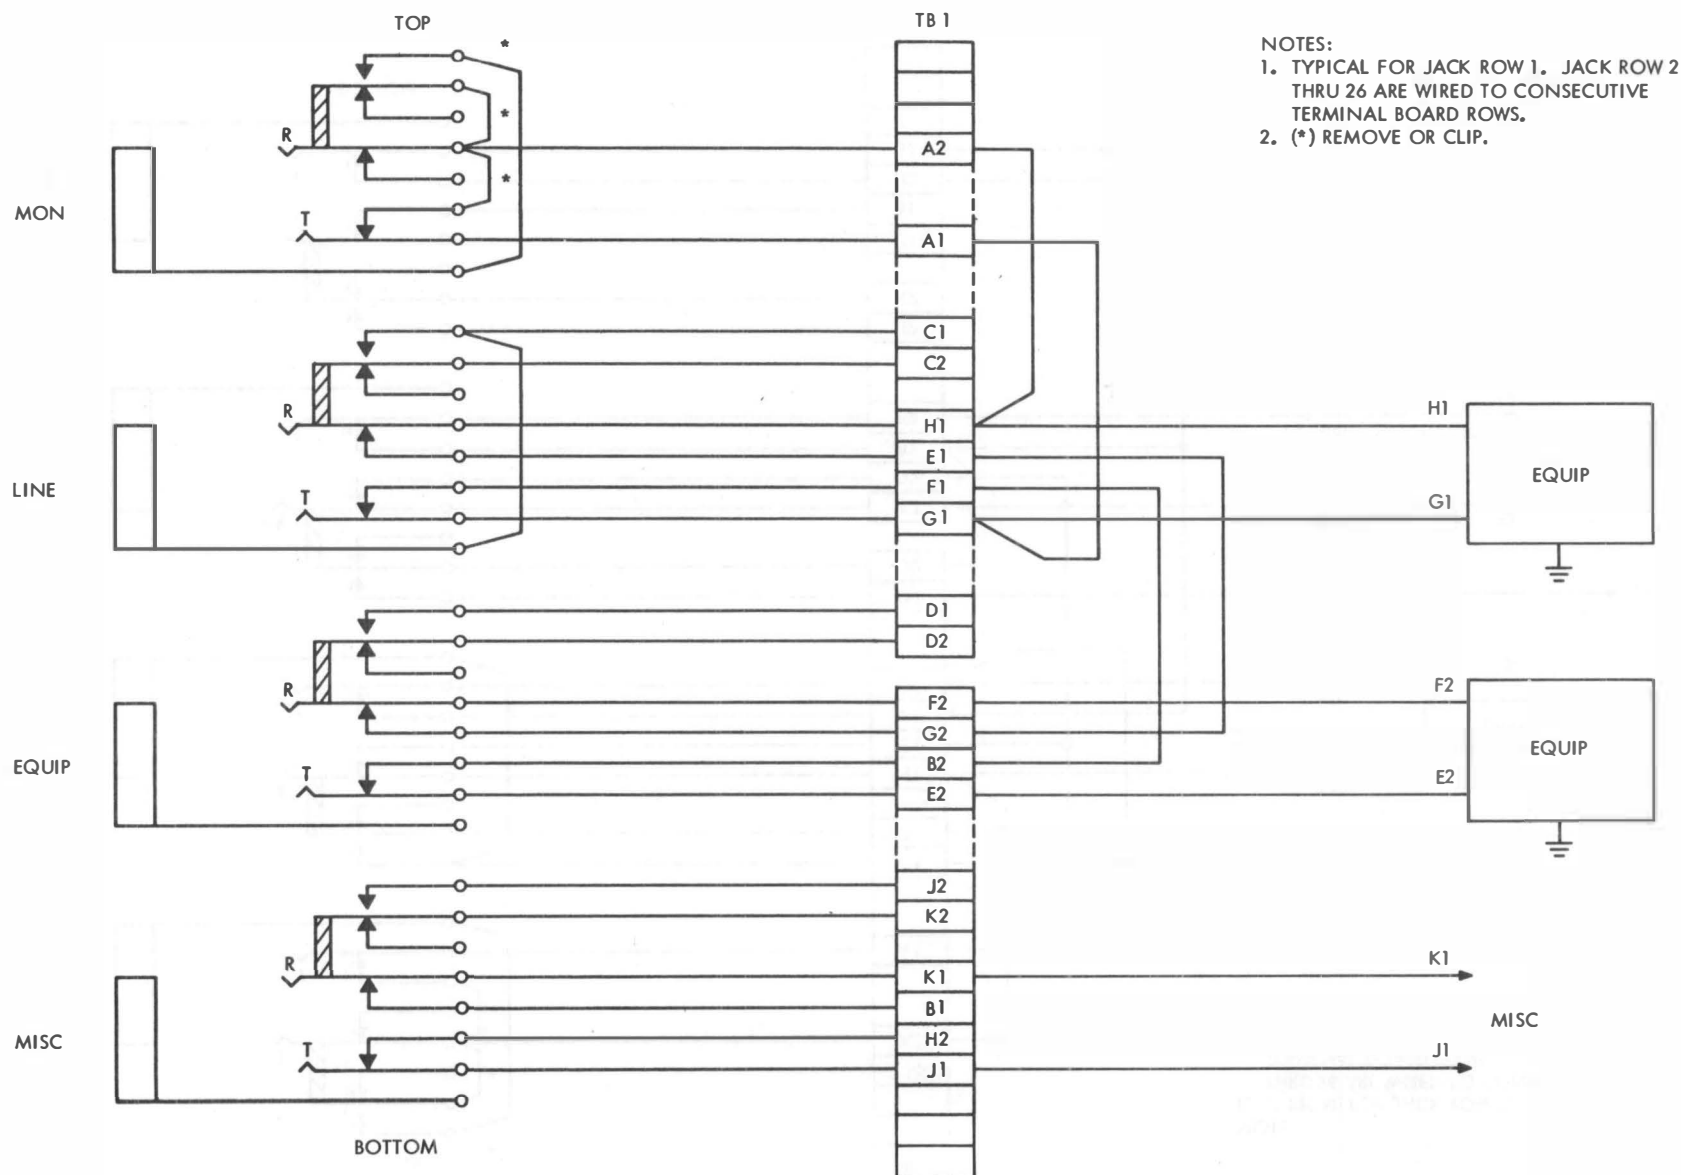

Figure 2-1. Strapping Option (GS) SB-3189A/FGC, Low-Level (Black)
- (1) PATCH PANEL SB-3189A/FGC. - (See figures 2-1 thru 2-4.) Strapping options may be made as installation conditions dictate. Cable entry is facilitated at the rear of the panel. All connections are made to two (2) 10 x 26-row WECO type terminal blocks as shown in figure 6-2.